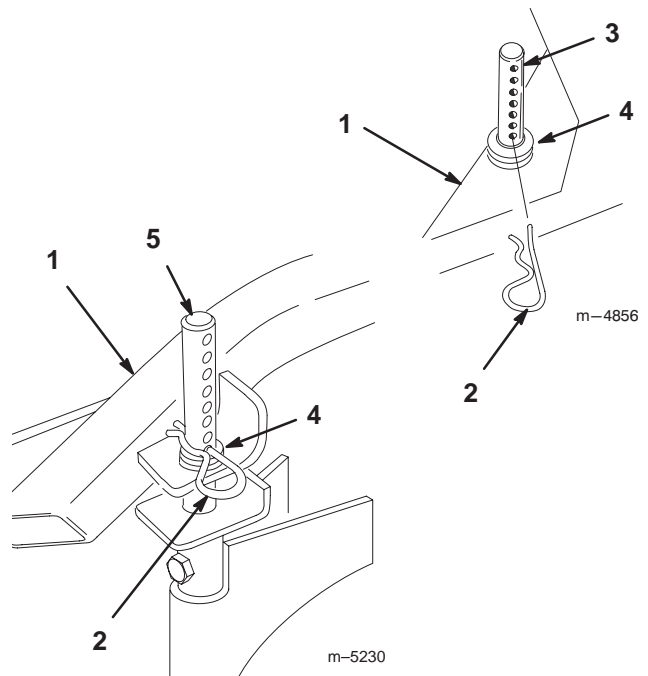

Figure 17
1. To adjust, remove hairpin cotter from height-of-cut post (Fig. 17).
2. Select hole in height-of-cut post corresponding to the height-of-cut desired (Fig. 17).
3. Lift on side of deck and remove hairpin cotter (Fig. 17).
4. Add or remove spacers if needed and then align holes and insert hairpin cotter (Fig. 17).